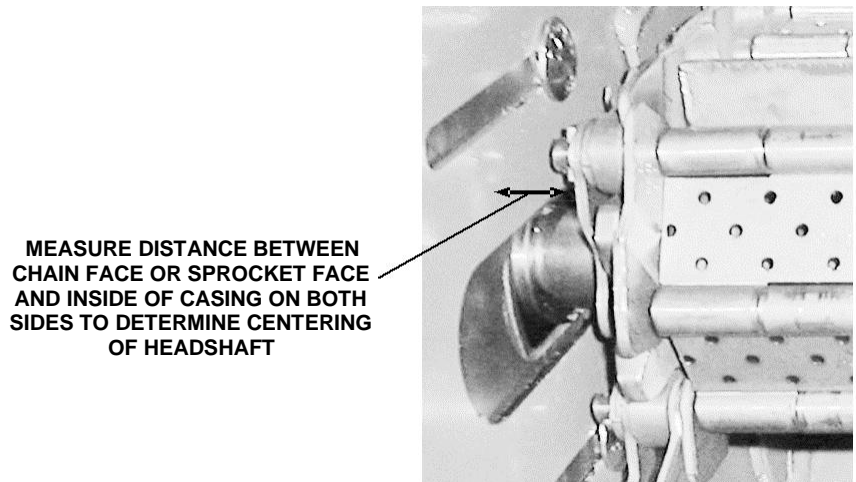

Figure 9: Headshaft centering measurement
- a. Measure the distance between the headshaft sprocket face (or chain face) and the inside of the casing on both ends of the shaft to verify that the metal belt is centered in the discharge section (Figure 9). If not, proceed as follows:
- Measure the distance between the chain face (or sprocket face) and the inside of the casing (Figure 9). Be sure that the sprockets are centered (distance is equal for both sides).
Adjust the headshaft so that the chain equal distant between the chain and the inside of the side plate on each side (Figure 9).